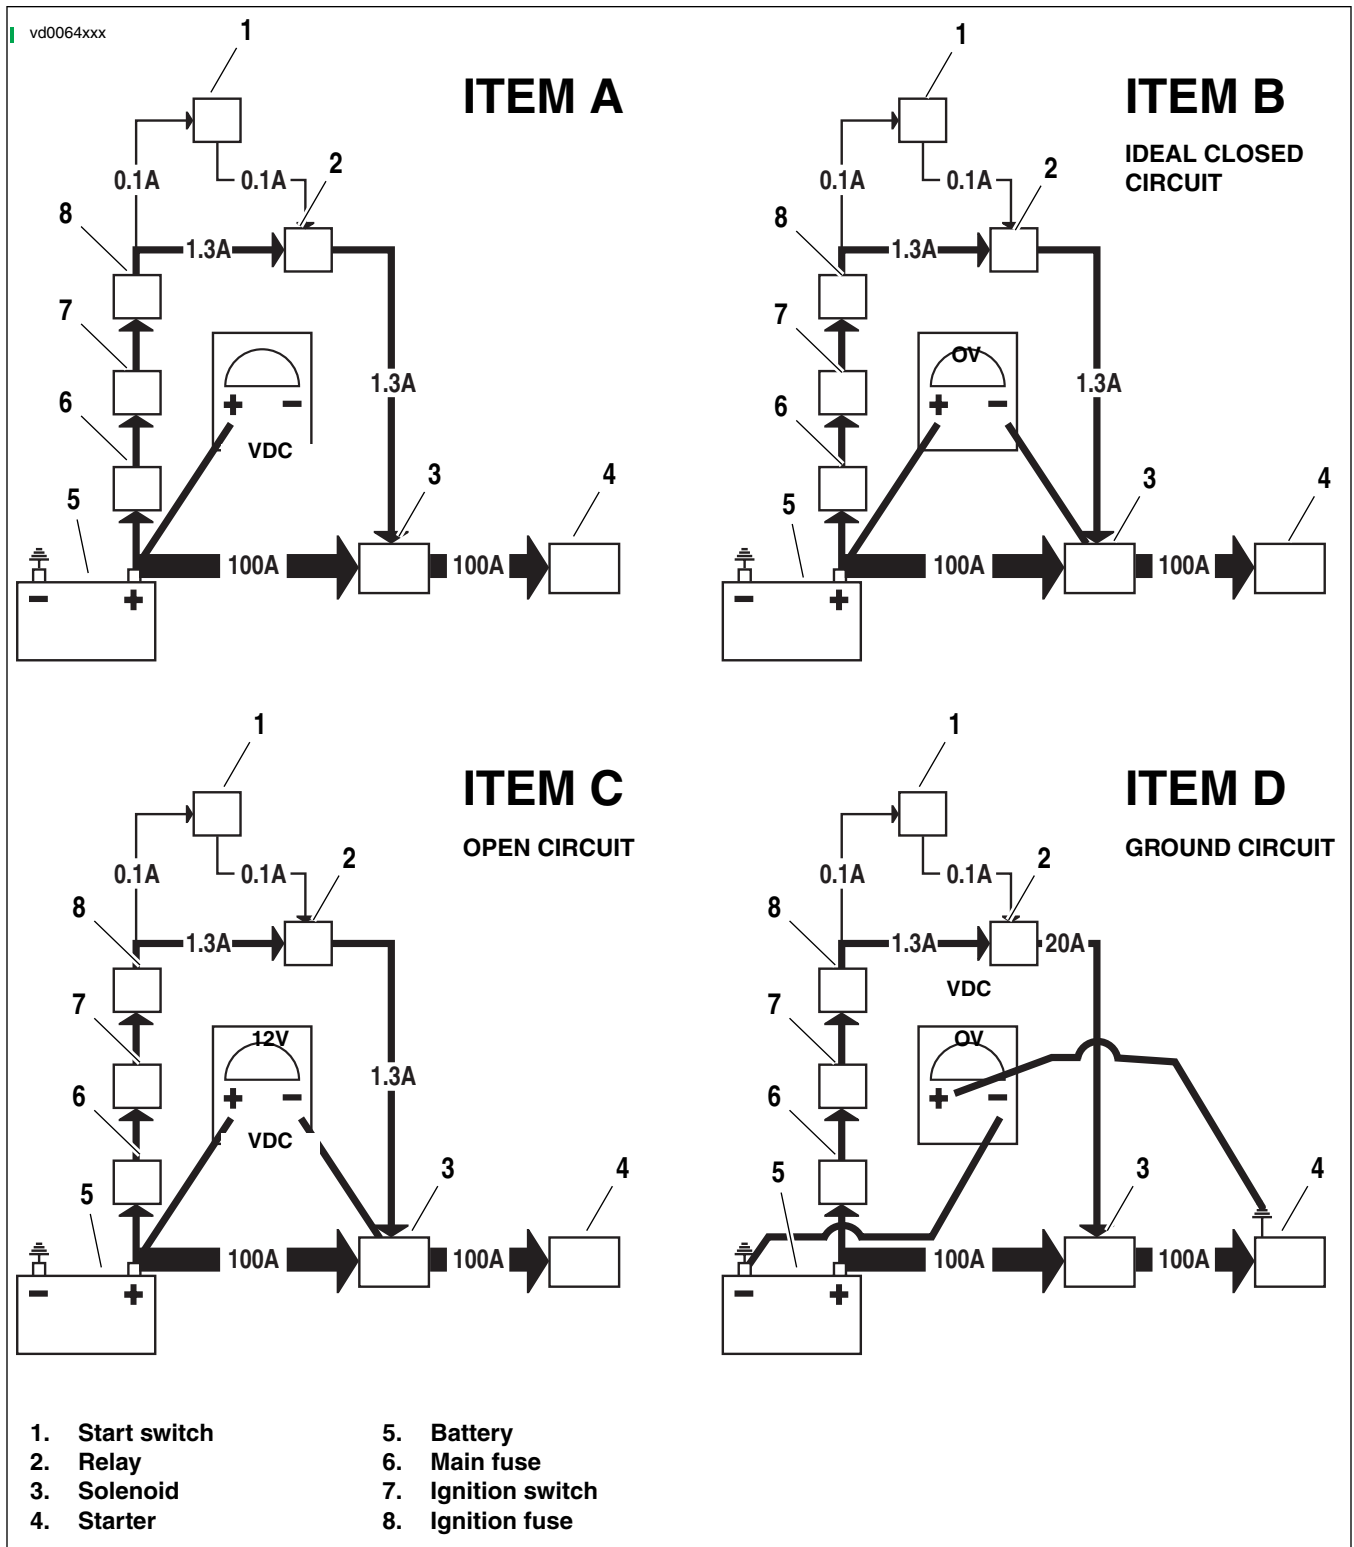

Figure 1-3. Typical Circuitry. Refer to wiring diagrams for more information.
1. See ITEM A in Figure 1-3. Attach your red meter lead to the most positive part of the circuit, which in this case would be the positive post of the battery (5).
2. See ITEM B in Figure 1-3. Attach the black meter lead to the final destination or component in the circuit (solenoid terminal from relay).
5. See ITEM C in Figure 1-3. An open circuit should read 12 volts, displaying all the voltage dropped, and the entire difference in potential displayed on the meter.
8. See ITEM D in Figure 1-3. The negative or ground circuit can be checked as well.